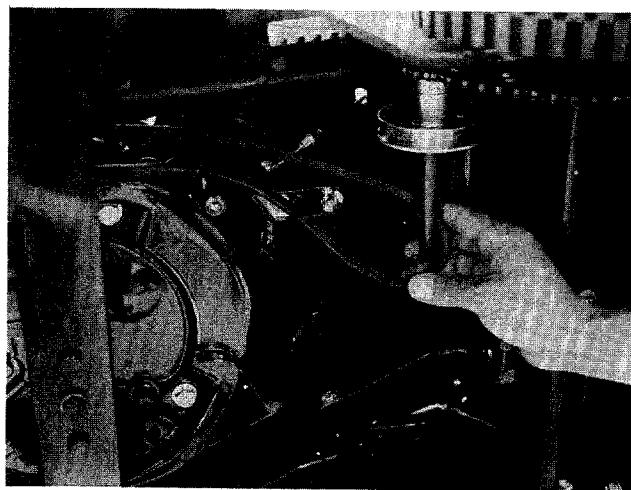

FIGURE 27.
9. Remove belt as shown in figure 27. Reassemble in reverse order with new belt.